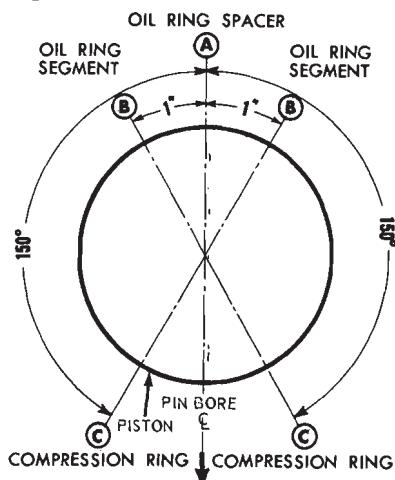

FIG. 33—Piston Ring Spacing
3. Make sure the ring gaps are properly spaced around the circumference of the piston (Fig. 33).